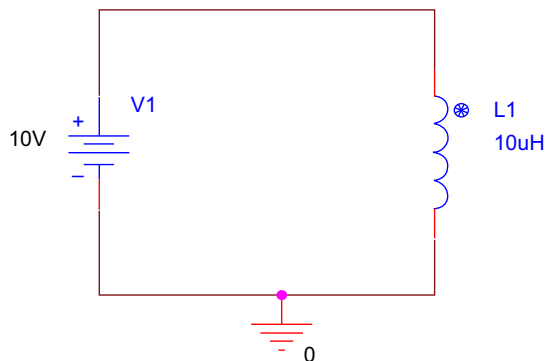

FIGURE 8.10
1. Draw the circuit in Figure 8.10 and create a bias point simulation profile.